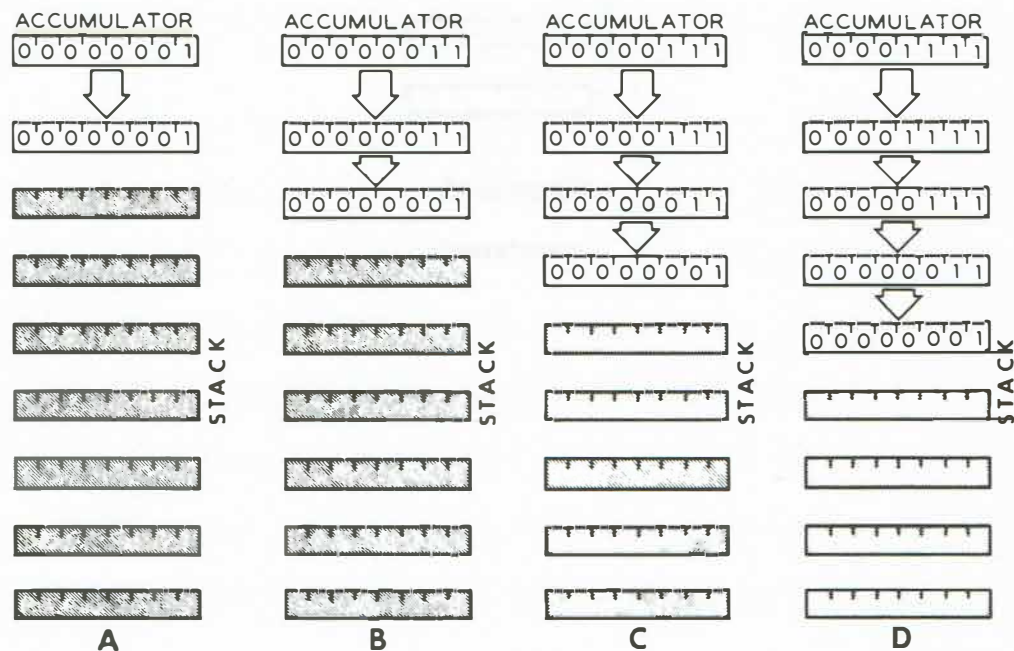

Figure 6-26
**The PUSH Instruction**—Figure 6-26 illustrates how the PUSH instruction places data in the stack. The number  $01_{16}$  is in the accumulator and we wish to temporarily store it. While we could store it in memory, this would require a 2-byte or a 3-byte instruction. Instead, we use the PUSH instruction to place this number in the stack. Notice that the number is placed in the top location of the stack as shown in Figure 6-25A. The number remains there until we retrieve it or until we “push” another byte into the stack.
If you compare Figures 6-26 and 6-27, you will notice that the data must be pulled from the stack in the reverse order from which it was pushed in. Hence, the last byte pushed into the stack is the first byte that is pulled from the stack. Another name for this arrangement is a last-in/first-out (LIFO) stack.